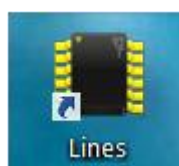

Figure 7.1
7.2.1 Launch the program “Lossless Line” by clicking the left mouse button on the shortcut on the desktop of the computer (figure 7.1).